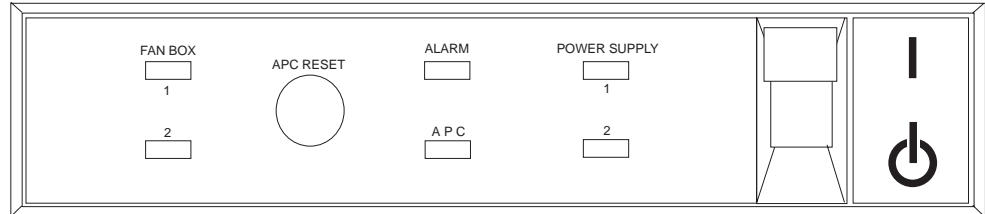

Figure 5-3. Control Panel
**Note:** If the power supply 2 is not installed, do not care about the status of the leds number 2 (see Figure 5-3 on page 5-3).
On the control panel (see Figure 5-3 on page 5-3), verify that the **yellow** led for the ALARM is **OFF**. If OFF, go to "Powering Up the Nways Switch Administration Station," otherwise go to step 2 and verify the status of the modules installed in the 2220.